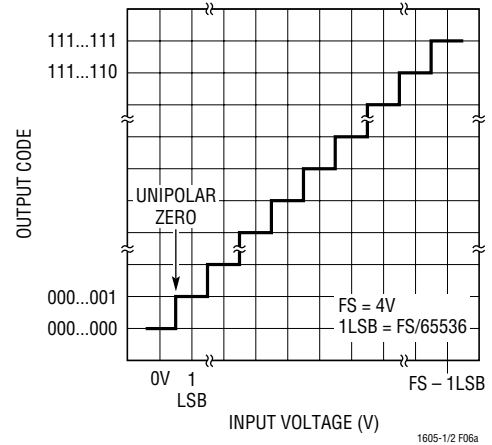
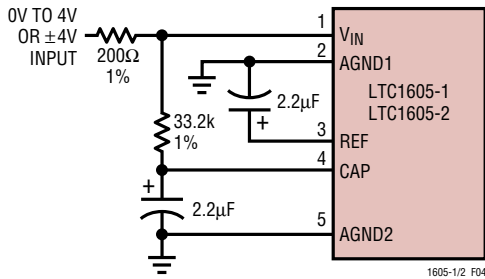
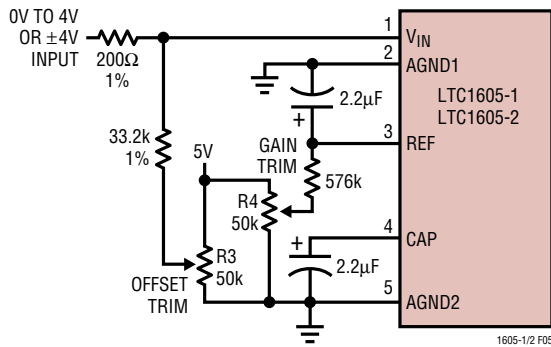

Figure 6a. LTC1605-1 Unipolar Transfer Characteristics
Figure 4. 0V to 4V Input for the LTC1605-1 and ±4V for the LTC1605-2 Without Trim
Figure 5. 0V to 4V Input for the LTC1605-1 and ±4V for the LTC1605-2 with Offset and Gain Trim
**Note 12:** As measured with fixed resistors shown in Figure 4. Adjustable to zero with external potentiometer.
The LTC1605-1/LTC1605-2 offset and full-scale errors have been trimmed at the factory with the external resistors shown in Figure 4. This allows for external adjustment of offset and full scale in applications where absolute accuracy is important. See Figure 5 for the offset and gain trim circuit for the LTC1605-1/LTC1605-2. First adjust the offset to zero by adjusting resistor R3. Apply an input voltage of 30.5 $\mu V$  (0.5LSB) and adjust R3 so the code is changing between 0000 0000 0000 0001 and 0000 0000 0000 0000. The gain error is trimmed by adjusting resistor R4. An input voltage of 3.999908V (FS – 1.5LSB) is applied to  $V_{IN}$  and R4 is adjusted until the output code is changing between 1111 1111 1111 1110 and 1111 1111 1111 1111. Figure 6a shows the unipolar transfer characteristic of the LTC1605-1.